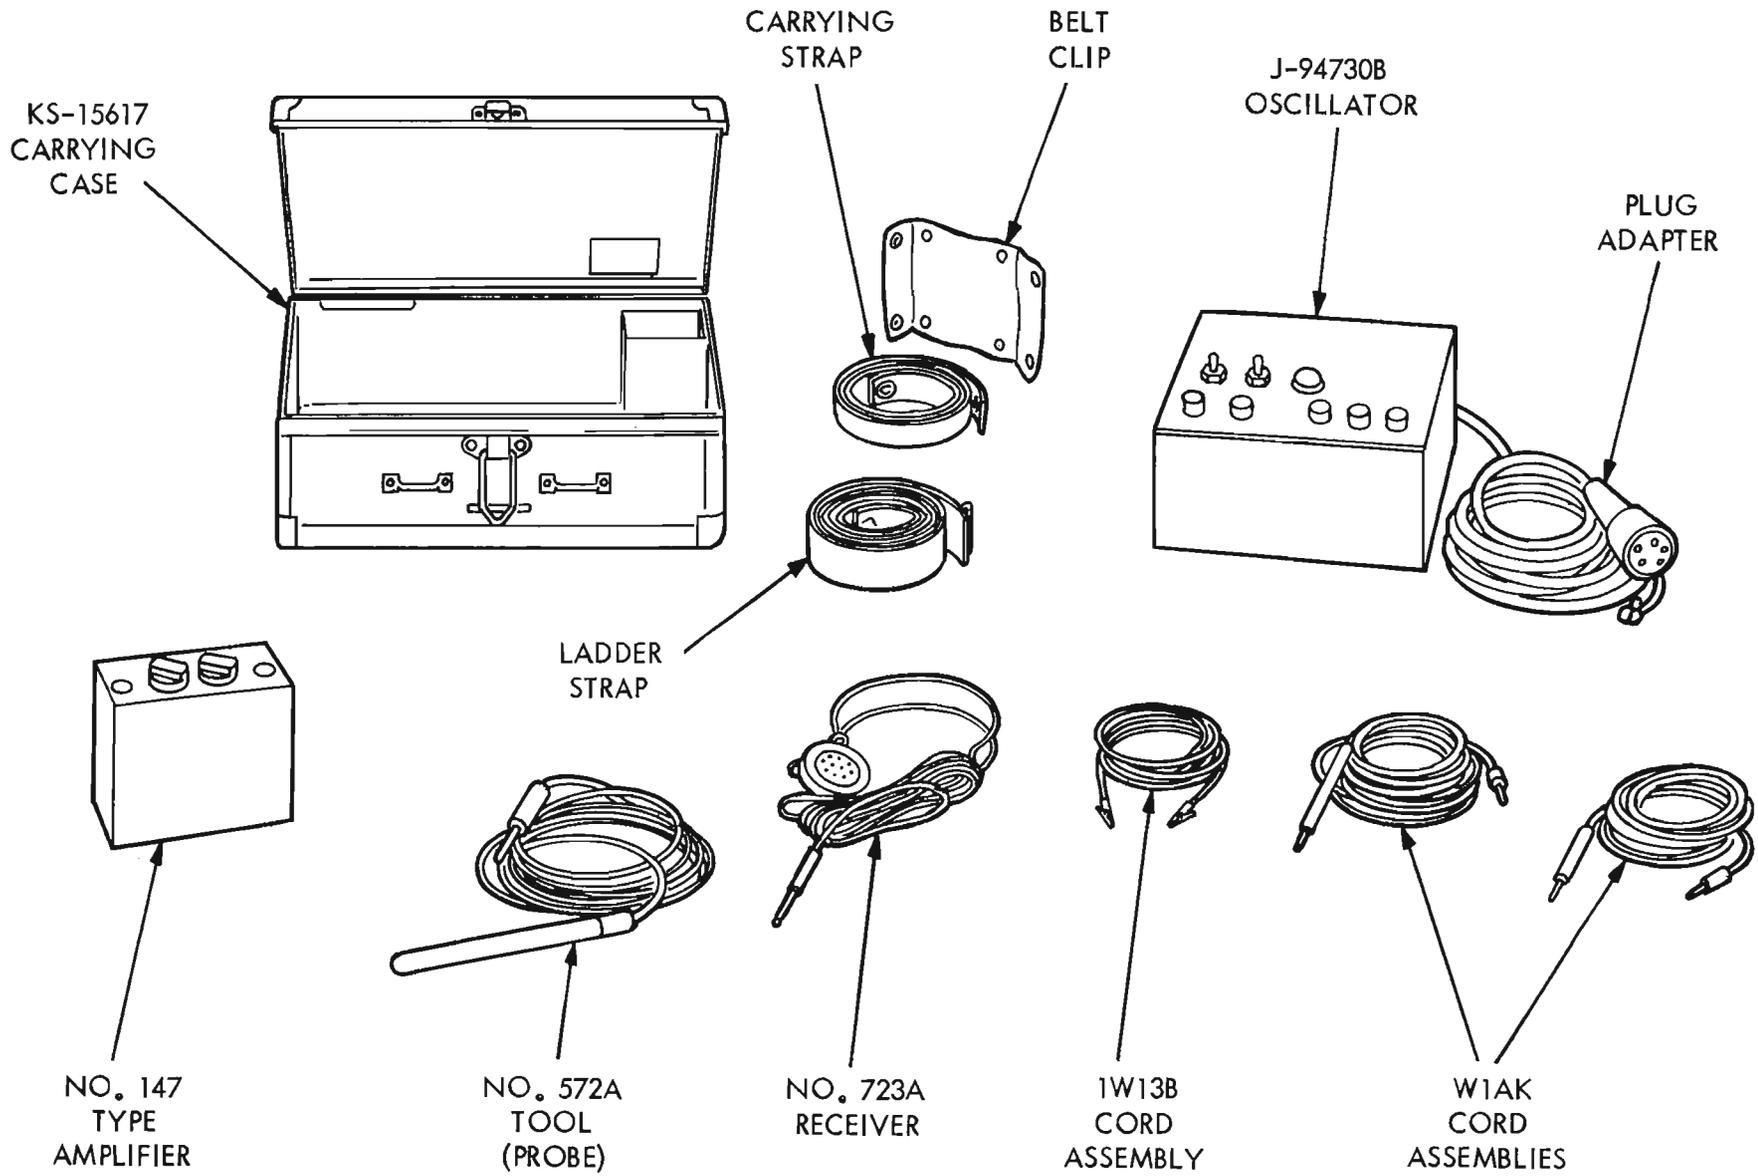

Figure 1. 1A Fault Locator Components
2.02 The fault locator components (including carrying case) weigh 12 pounds. Major components are described in Paragraphs 2.03-2.11. Figure 1 shows all of the components.